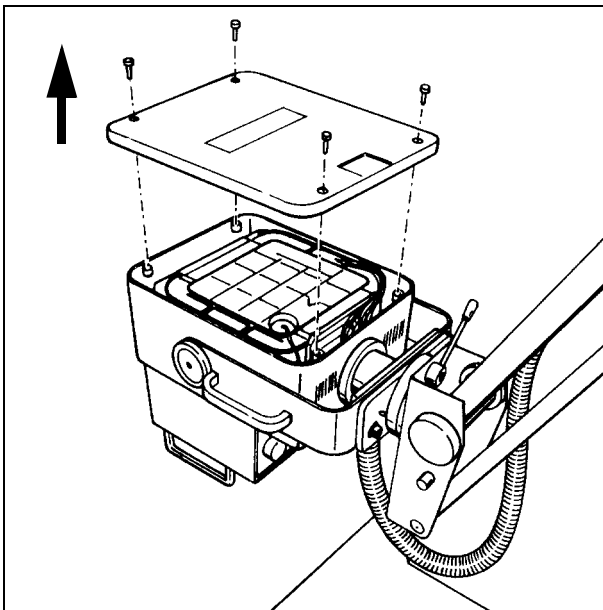

Fig. 2
- Remove the 4 Allen screws ( 3 mm key size) from the lid of the single tank and take off the lid (Fig. 2).